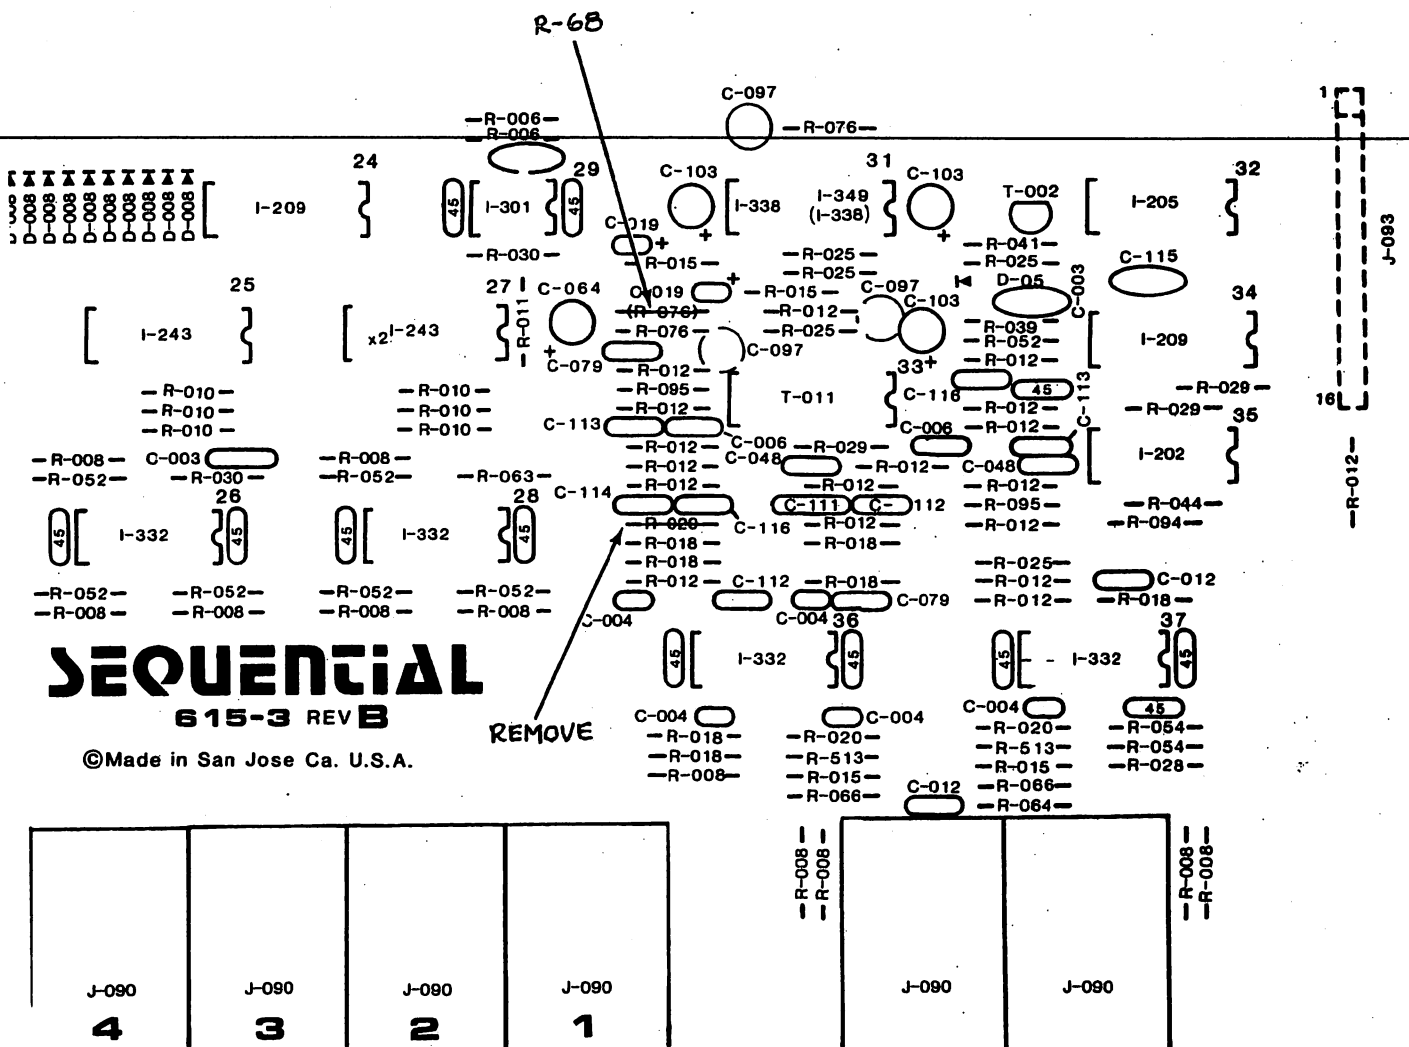

Figure 3 Silkscreen
2. Refer to Figure 3, Silkscreen, and perform the following steps: